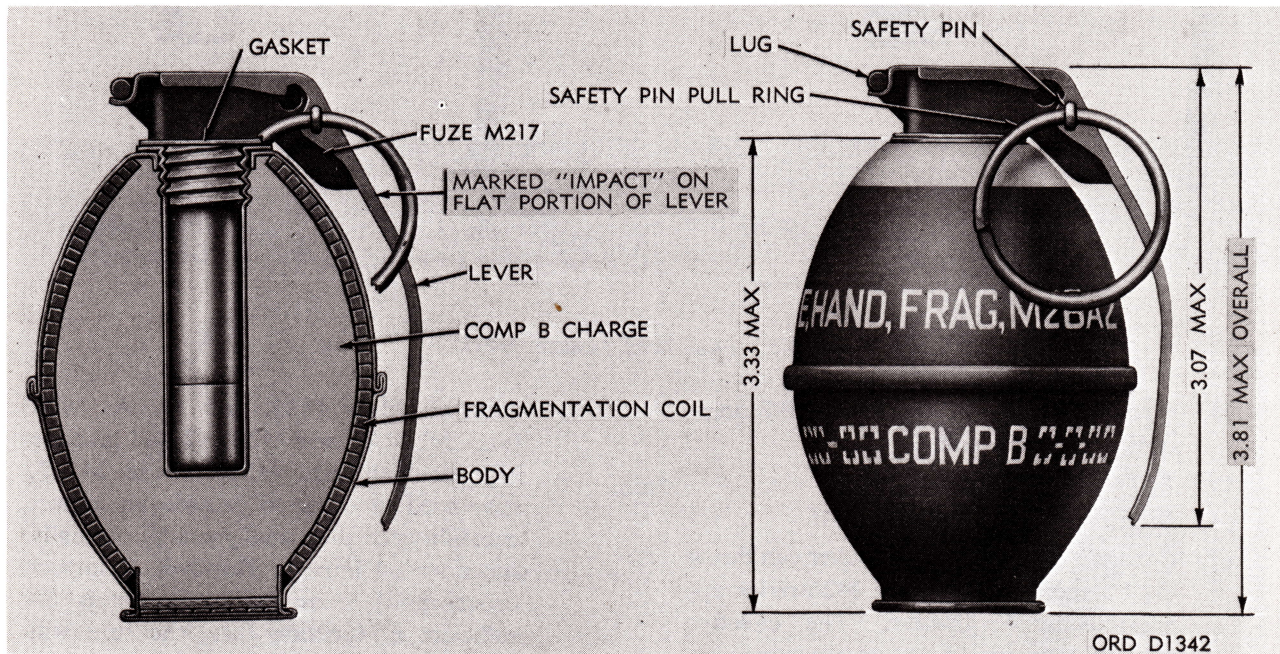

Figure 2-6. Grenade, hand: Fragmentation, M26A2 w/fuze, hand grenade: M217—cross section and external view.
- (a) *General.* The fragmentation hand grenade M26A2 with fuze M217 (fig. 2-6) consists of three basic: an explosive charge, a grenade body, and an electric impact-functioning fuze with an overriding delay-function feature. The body consists of a smooth, thin-sheet, steel shell. The inside of the shell is lined with a notched fragmentation wire coil.